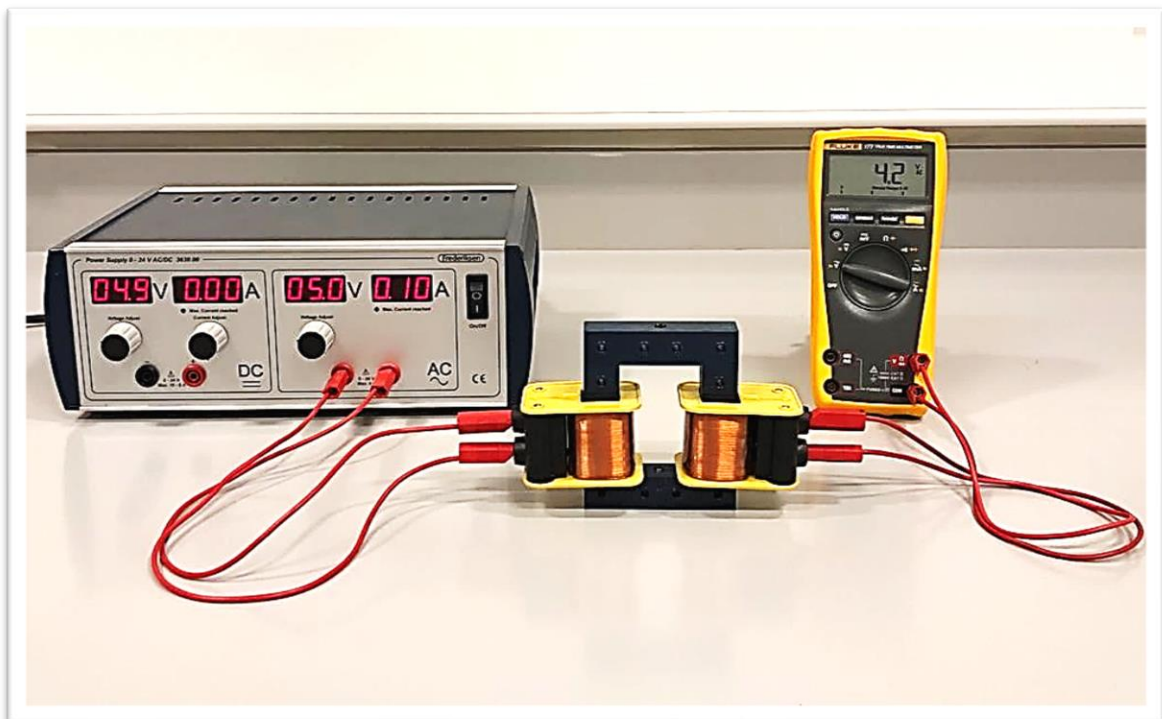

Fig. 4: Setup to examine step-up & step-down transformers
- 1- Using the core configuration that gave the maximum voltage gain in **part 1**, set up the coils as shown in **Fig.4**.